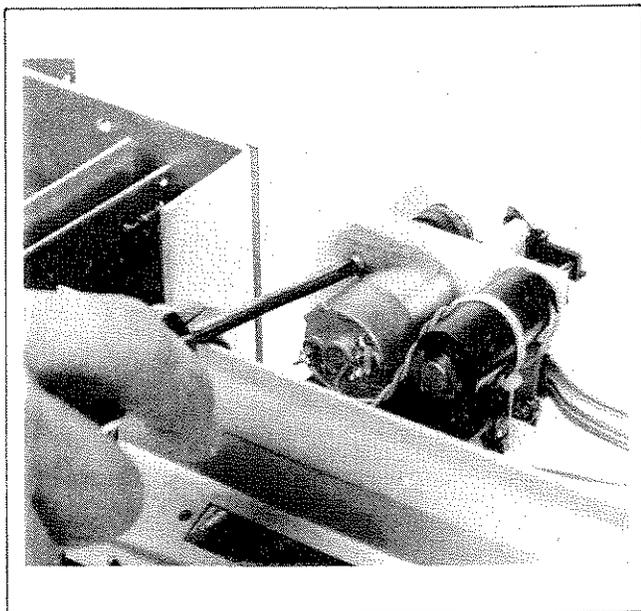

Figure 8-13. Y-Axis Servo Motor Removal
4. Remove screw holding servo motor mounting clamp to motor. (See Figure 8-13.)